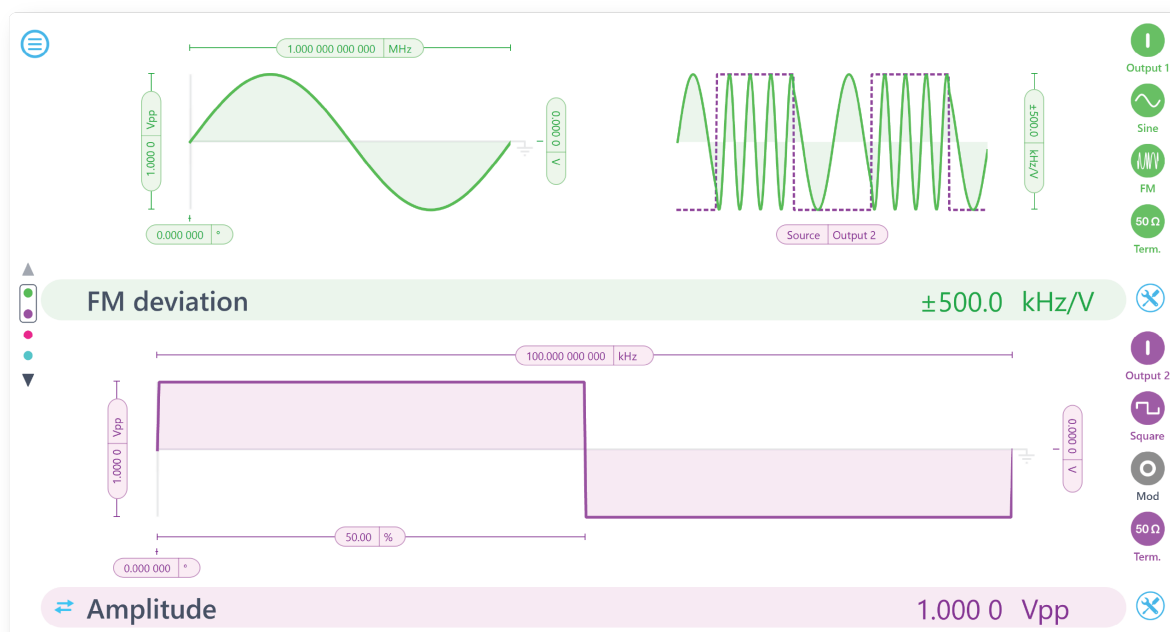

Figure 2. Waveform Generator quick start guide to frequency modulation
- On the right side of Output 1, select the modulation type to be frequency modulated (FM)
- A preview of the waveforms will be shown in the Waveform Generator interface, as seen in Figure 2.